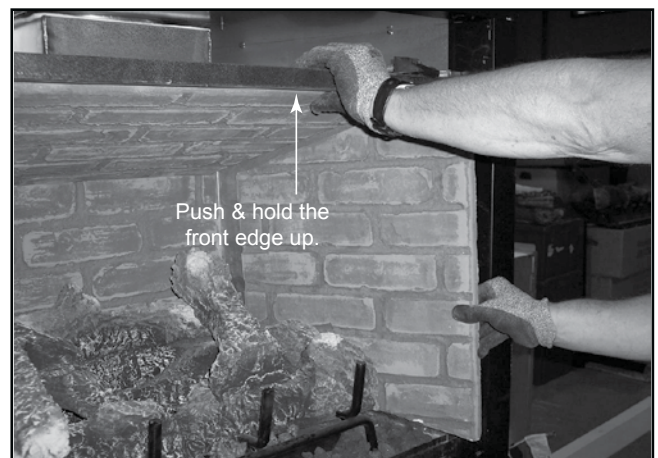

Figure 7.20 Remove One Side Refractory
- Remove the right or left side refractory (only one side must be removed) by gently raising the front of the top refractory and lifting the side piece up slightly and pulling out. See Figure 7.20.